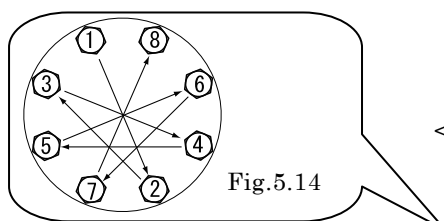

Fig.5.14
- Tighten the bolts gradually in a diagonal sequence with even torque. [Fig.5.14].